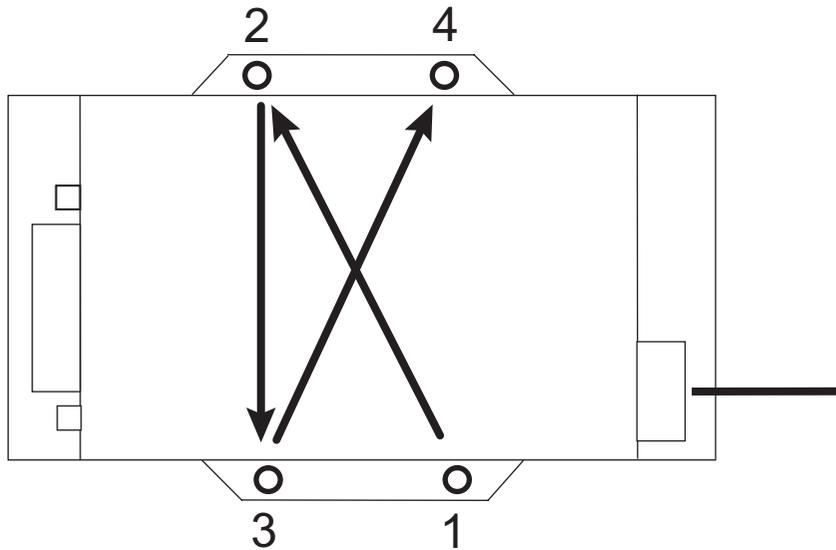

Figure 3-3. Sapphire Torque and Tightening Pattern
1. Following the 1-2-3-4 sequence shown in Figure 3-3 (p. 3-4), torque the mounting screws to **0.5 Nm** (4.42 lbf-in).
2. Using the same 1-2-3-4 sequence shown in Figure 3-3, torque the mounting screws to **1.5 Nm** (13.28 lbf-in).